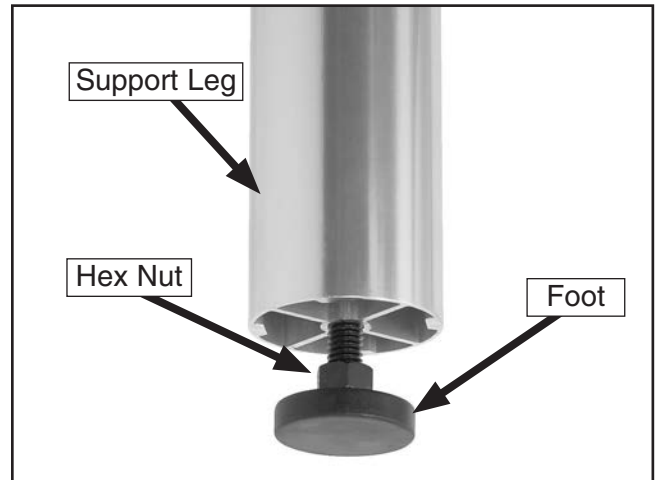

Figure 8. Foot installed on support leg.
- Thread (1) 3/8"-16 hex nut on each of the (2) extension table feet, then install feet in bottom of each extension table support leg, as shown in **Figure 8**.